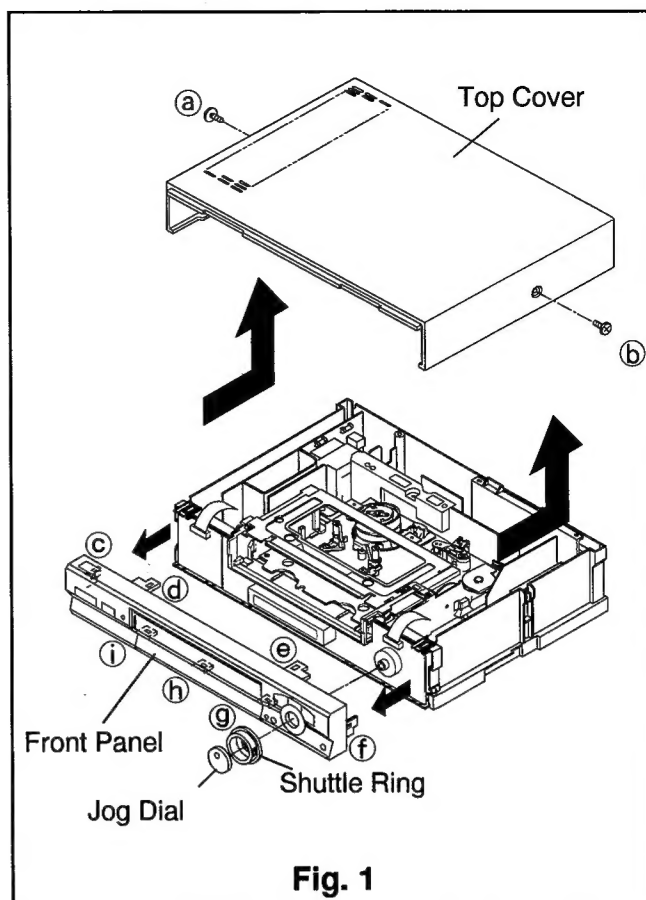

Fig. 1
The test sequence, with reference to the measuring circuit in Fig. 1 is as follows:
- ① Remove the two Top Cover fastening screws (a) and (b) shown in Fig. 1 and remove the Top Cover in the direction shown by the arrows.
- ① Remove the Top Cover, refer to Para. 1.
- ② Unfasten seven catches (c~i), two on the top, two on the side, and three on the bottom, and remove the Front Panel in the direction shown by the arrows.